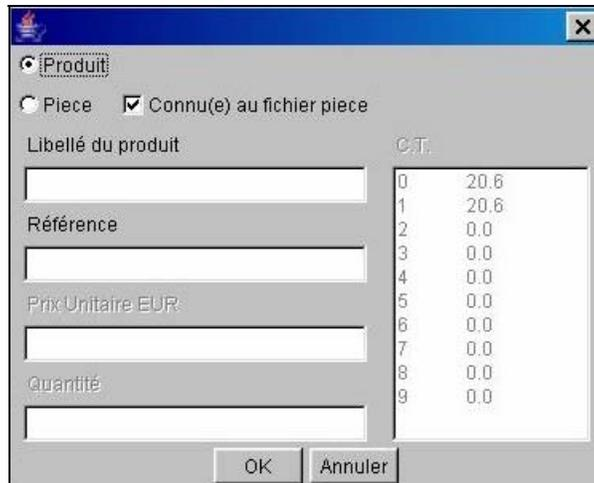

Figure 5: Entering the part information
- Then click on the **Add** button. A dialogue box appears (figure 5).